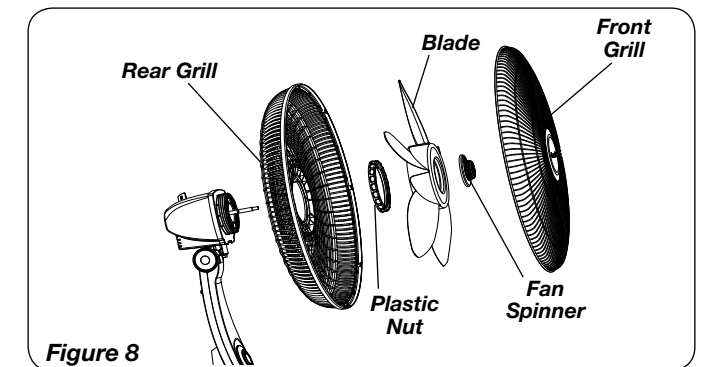

Figure 8
3. Fully seat Rear Grill and secure with Plastic Nut turning Clockwise. Slide Blade onto Motor Shaft. (Figure 8) Align Groove on blade hub with Pin on motor shaft. (Figure 8A)